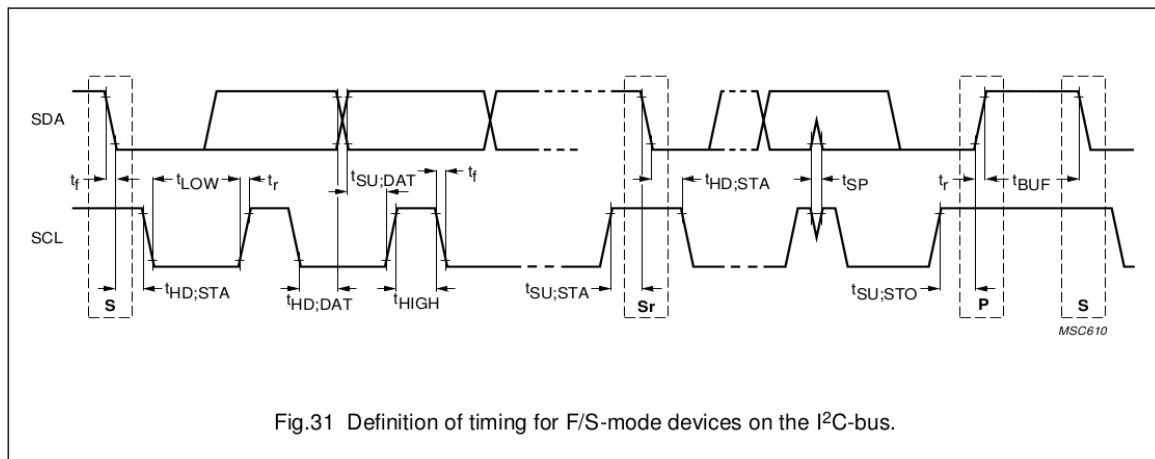

Figure 44.3-3. I2C Protocol Timing (Cited from Fig.31 in The I2C-bus specification Version 2.1)
- Command controller (CMD_Controller): generate (R)START, STOP, WRITE, READ, and END commands
- SCL clock controller (SCL_FSM): generate the timing sequence conforming to the I2C protocol. Figure 44.3-3 and Table 44.3-1 are the timing diagram and corresponding parameters of the I2C protocol.